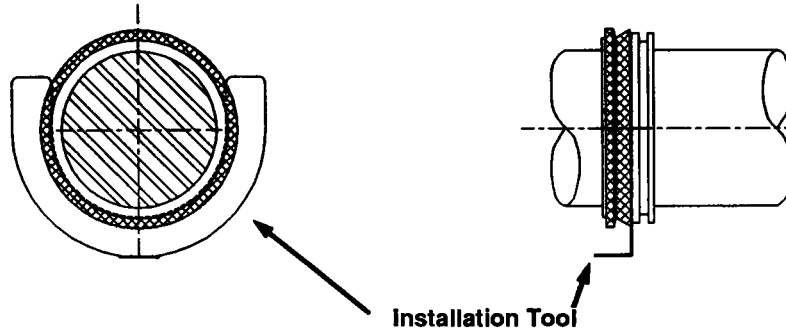

Figure 2b
5. Place one of the installation tools between the lip of the V-ring seal and the center ring on the seal ring (Figure 2b). Repeat the procedure for the second seal assembly. Rotate the tool(s) to the lower position to facilitate assembly of the bearing and seal(s) into the housing base (Figure 2b).